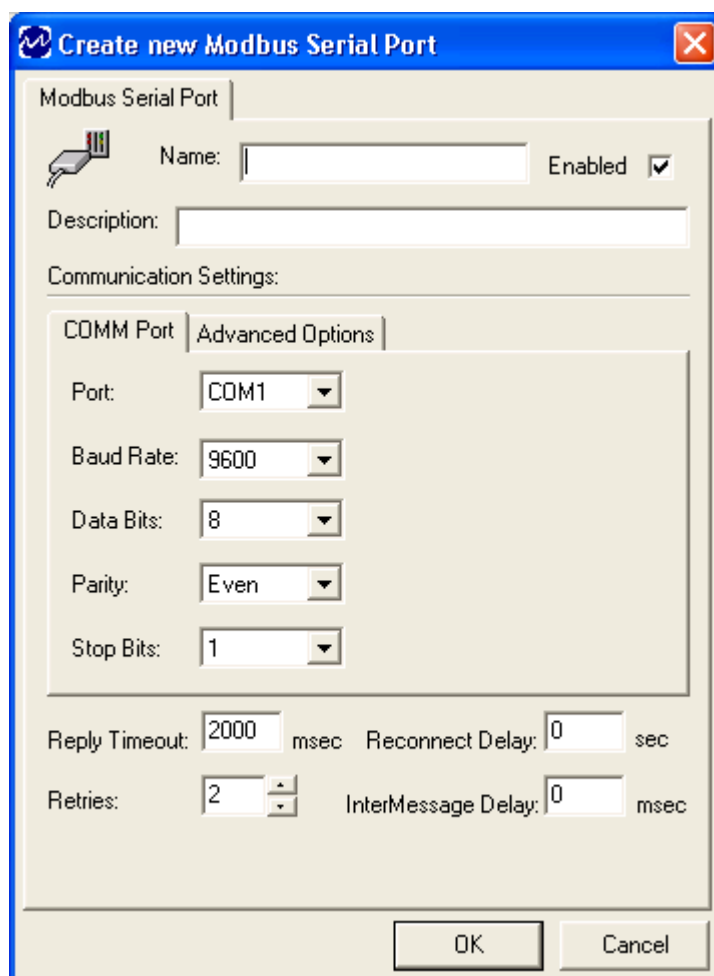

Figure 3 - Create New Modbus Serial Port Window – COMM Port Tab
The **Create New** window (Figure 3) displays the settings available for a connection to a Modbus Serial Port.
5. The **Create New** window appears (Figure 3).